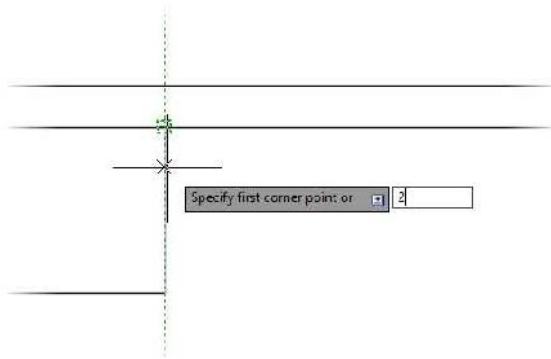

FIGURE 5.42: Locating the first corner of the rectangle
5. Move your cursor down, and enter **2↵ (51↵)**, as shown in Figure 5.42.